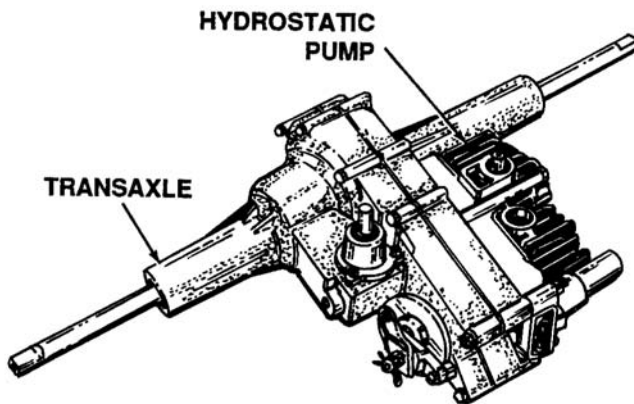

Figure 6-27. Transaxle and Pump
1. Remove transaxle and pump from tractor. See Figure 6-27.